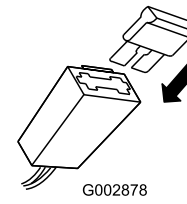

Figure 26
2. Insert the fuse into the fuse holder (Figure 26).